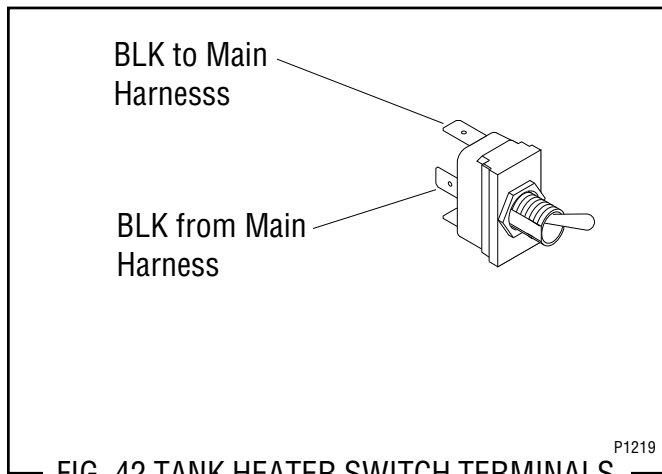

FIG. 42 TANK HEATER SWITCH TERMINALS
4. Connect the wires to the new switch, refer to Fig. 42.